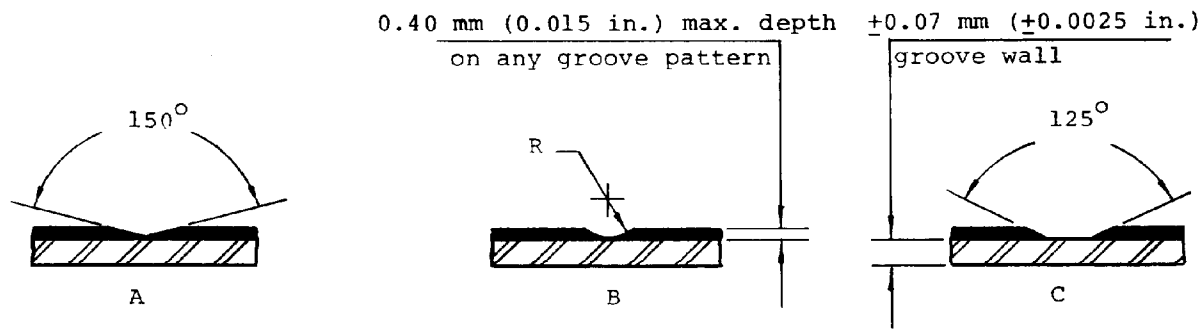

FIGURE 1—TYPICAL CROSS SECTIONS OF COINED OIL GROOVES
3.11 Standard Groove Cross Sections—Figure 1 illustrates the typical cross sections of coined oil grooves preferred for all thrust washer materials. Only groove sections "A" and "B" should be used in high lead alloys.